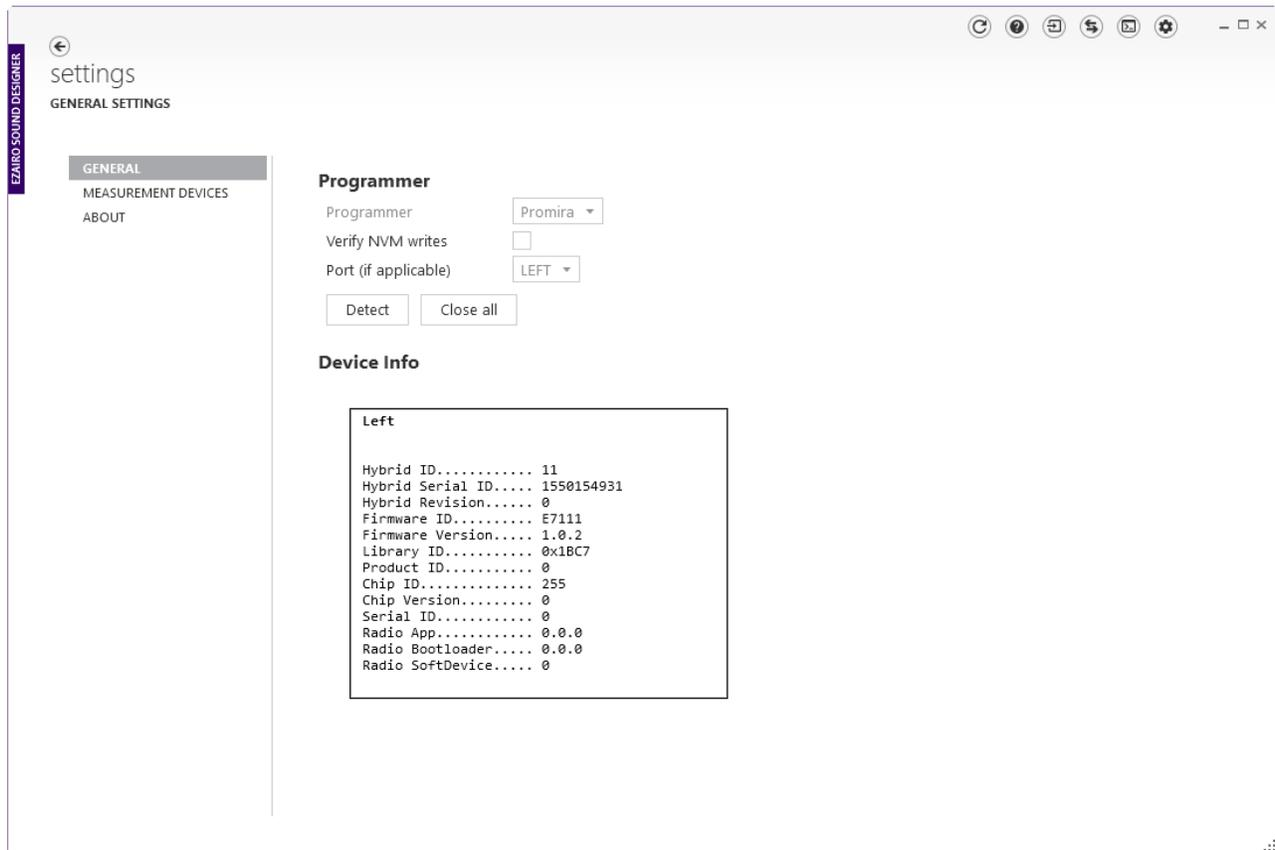

Figure 9. Detecting the Device
6. To connect to the device, go to the **Settings** screen. Select the correct **Programmer**, and **Port** if applicable. Next, click **Detect**. A successful detection populates the device information in the **Device Info** box, as shown in the figure "Detecting the Device" (Figure 9).